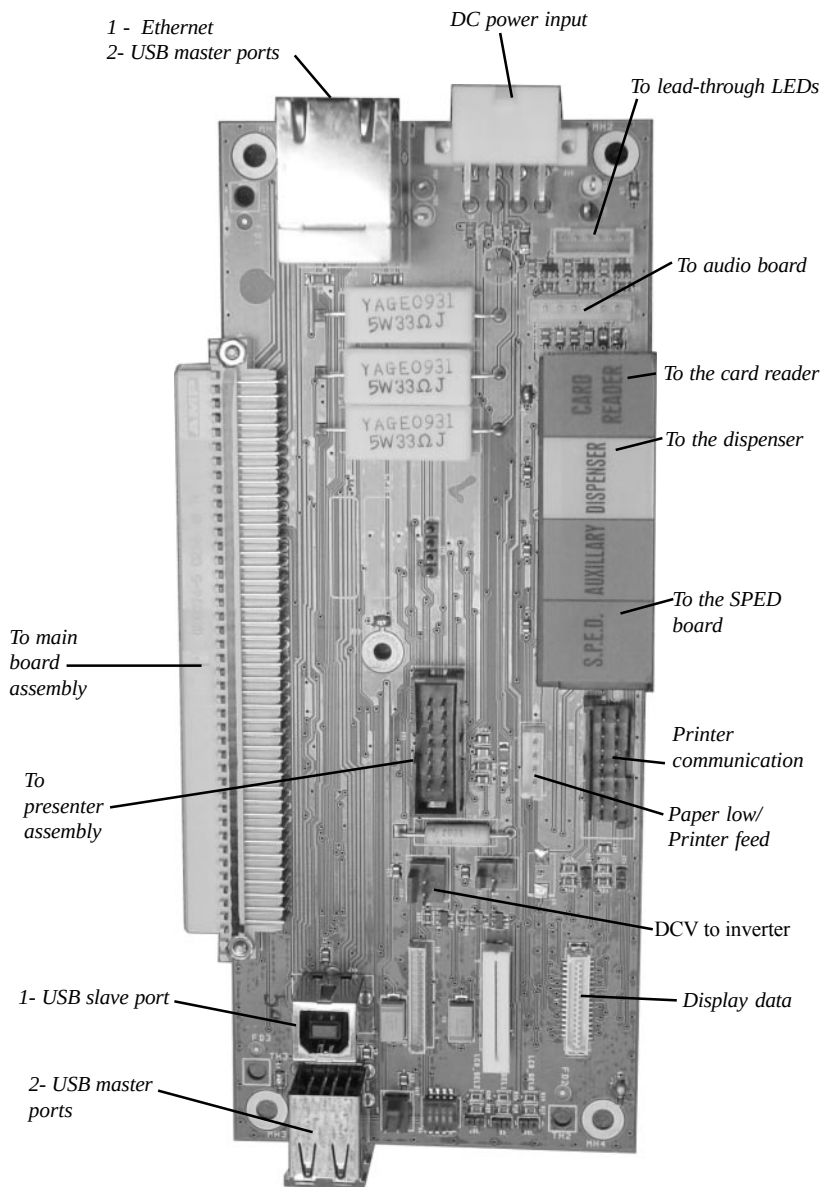

Figure 3-29. Docking Board connector lay out.
6. Refer to Figure 3-29. Carefully unplug all connectors from the docking assembly.
4. Refer to Figure 3-29. Attach the connectors that were removed earlier to the docking assembly.